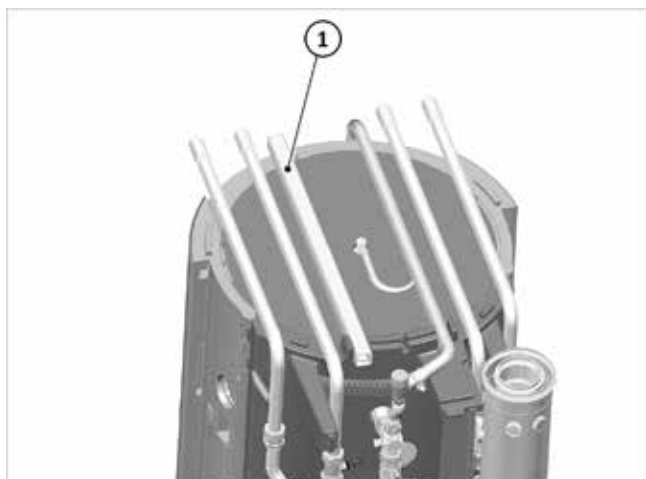

Fig. 102: Cable routing duct
1. Route the Modbus line of the junction box through the cable routing duct → Fig. 102 (1) in the cover area.